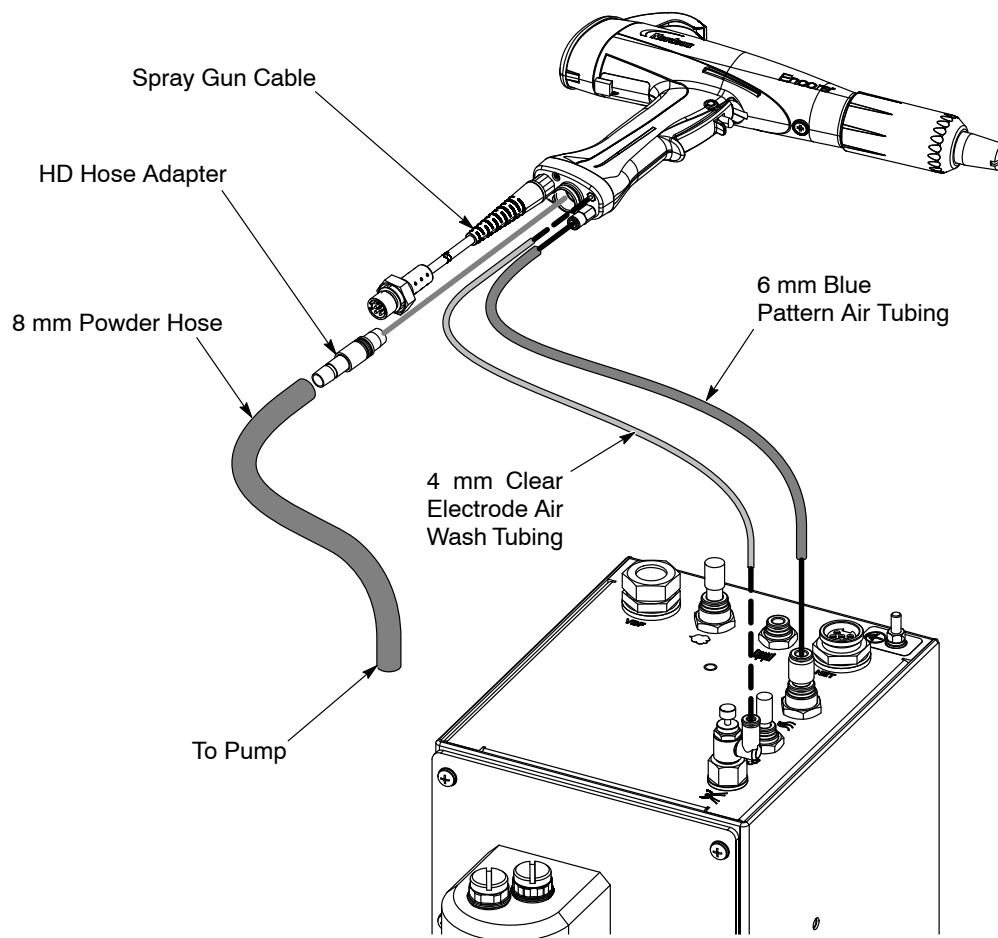

Figure 3-5 Spray Gun Connections
See Figure 3-5.
4. See Figure 3-5. Make sure the spray gun is not triggered, then turn on system controller power. The displays and icons on the controller interface and gun interface should light.